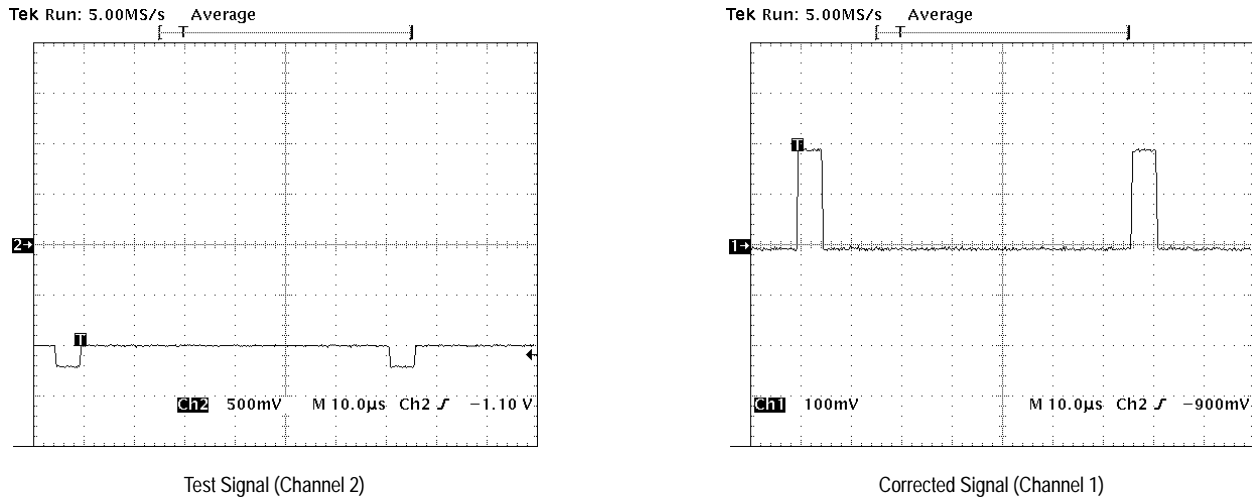

Figure 8: Back Porch Correction Test (Positive)
11. Verify that the negative portion of the pulse is within ± 14 mV of the ground reference (see Figure 8).